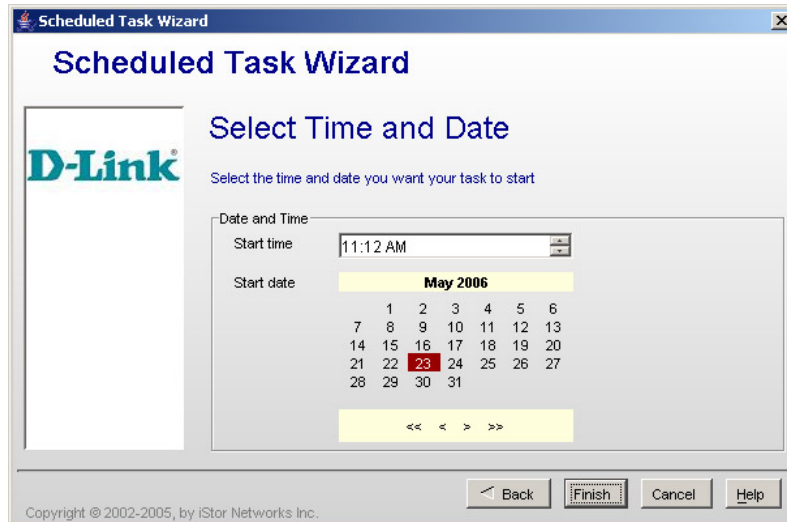

Figure 5-46. Scheduled Task Wizard – Select Date and Time Screen
3. Click **Next**. The Select Date and Time screen appears (see Figure 5-46).